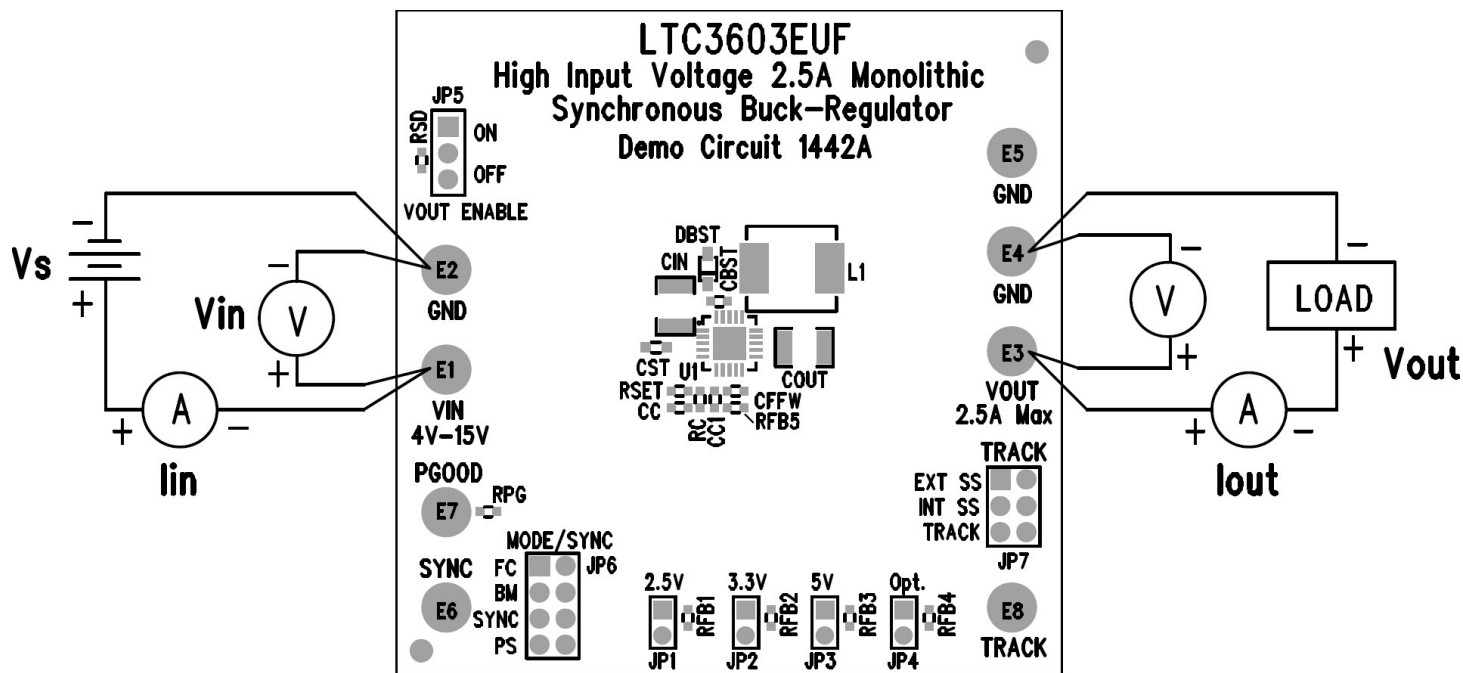

Figure 1. Proper Equipment Measurement Set-Up
Demonstration Circuit 1442A is easy to set up to evaluate the performance of the LTC3603EUF. For proper measurement equipment configuration, set up the circuit according to the diagram in Figure 1. Before proceeding to test, insert shunts into the OFF position of header JP5, which connects the RUN pin to ground (GND), and thus, shuts down the circuit, the forced continuous (FC) position of header JP6, the external soft-start (EXT SS) position of header JP7, and the 3.3V output voltage header, JP2.
With the DC1442A set up according to the proper measurement and equipment in Figure 1, apply 6.3V at Vin (Do not hot-plug Vin or increase Vin over the rated maximum supply voltage of 15V, or the part may be damaged.). Measure Vout; it should read 0V. Turn on the circuit by inserting the shunt in header JP5 into the ON position. The output voltage should be regulating. Measure Vout - it should measure 3.3V +/- 2% (3.234V to 3.366V).